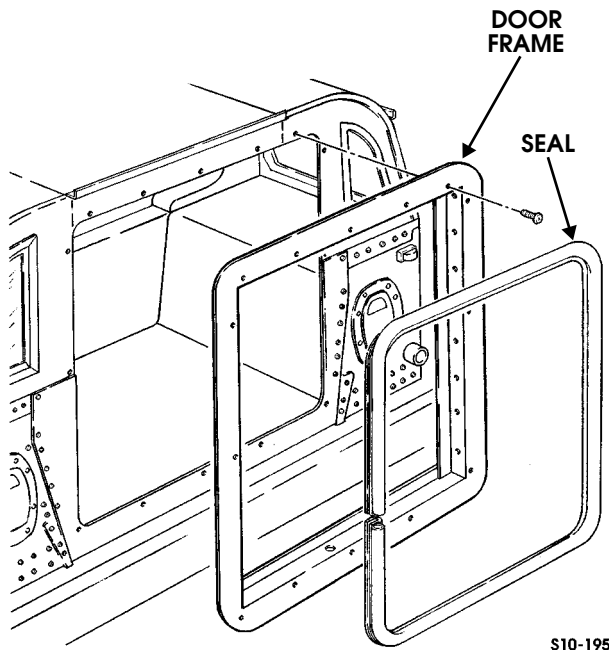

Figure 10-158: Door Frame and Seal Replacement
3. Remove fourteen screws and door frame from vehicle (Figure 10-158).
1. Position seal on door frame (Figure 10-158).